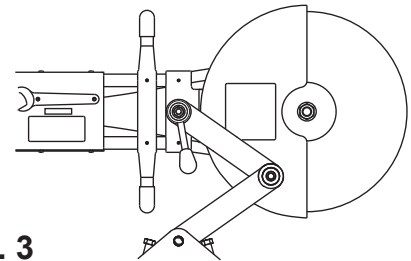

Fig. 3
2. Attach the HS16 Hydraulic Rail Saw to the clamp at the clamp mounting screw and tighten the saw to the clamp assembly with the clamp handle (See Fig. 3)